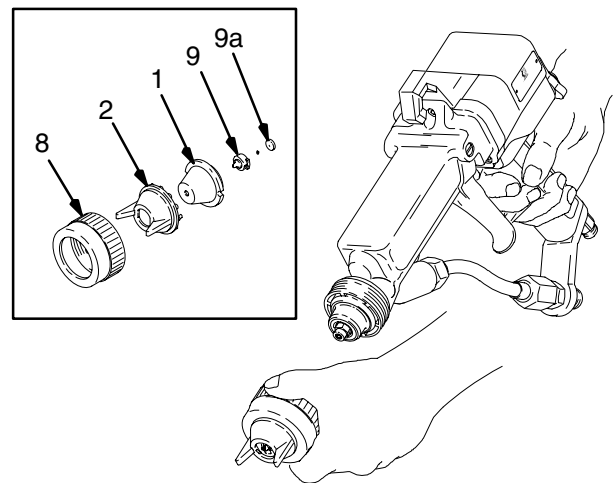

Fig. 7
2. Remove the retaining nut (8), tip guard, (2), air cap (1), and spray tip (9). See Fig. 7. You may have to turn the air cap with the tip guard to remove the air cap from the gun.
2. Remove the retaining nut (8), tip guard, (2), air cap (1) and spray tip (9). See Fig. 7. You may have to turn the air cap with the tip guard to remove the air cap from the gun.
2. Remove the retaining nut (8), tip guard, (2), air cap (1), and spray tip (9). See Fig. 7, page 29. You may have to turn the air cap with the tip guard to remove the air cap from the gun.
2. Remove the retaining nut (8), tip guard, (2), air cap (1) and spray tip (9). See Fig. 7, page 29. You may have to turn the air cap with the tip guard to remove the air cap from the gun.